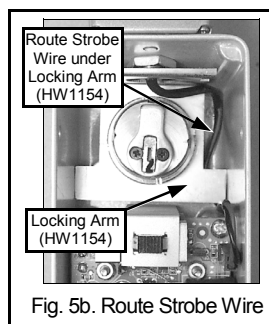

Fig. 5b. Route Strobe Wire
Strobe Connector (Jumper 14). If using a Strobe unit, run the wires through Strobe Assembly and Palnut and plug female polarized connector into J14 located in the center of the PC board (see Fig 5b, page 4). **Note:** J14 (Pin1) is the external Strobe Power (9 volts) and J14 (Pin2) is the Strobe Ground.
- (b) install the Locking Arm (HW1154). Be sure to route the strobe wire under the Locking Arm to avoid interference (see Fig 5b), then screw the Lock Ring (P1267) onto the Cylinder as shown and tighten using the Spanner Wrench (P4577) supplied.